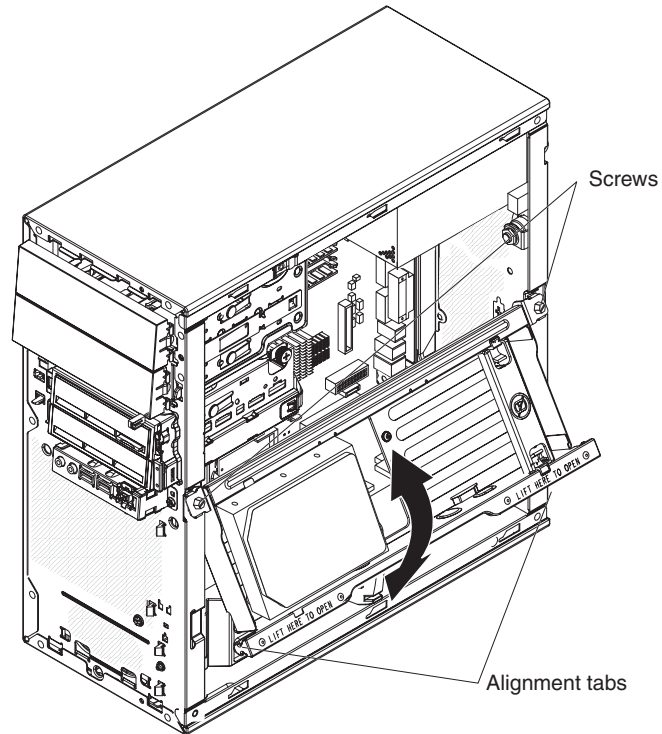

Figure 30. Installing the hard disk drive bracket
1. Place the top edge of the hard disk drive bracket into place on the chassis; then, rotate the tray downward until it engages in the chassis (see Figure 30).